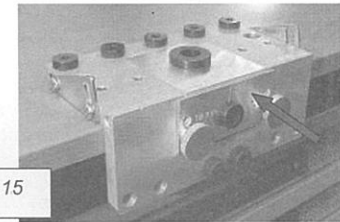

Fig.15
- 5.2. Secure the drill guide by screwing one of the vertical drill guides onto the jig body. Make sure that you use a vertical drill guide that suits the wood thickness of the work piece (fig. 15).
- 5.3. Slide the jig onto the work piece as far as the edge of the work piece (fig. 15).